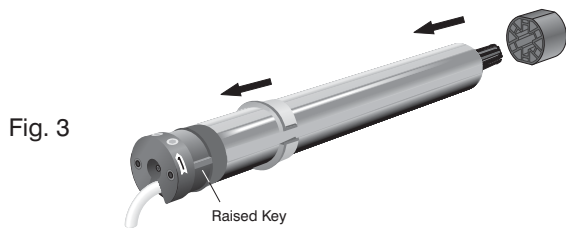

Fig. 3
- Carefully pull open the one piece crown in order to fit over the body of the motor. Slide the opening of the crown wheel over the recessed part of the motor's limit switch unit and close it over the Raised Key. (See Fig. 3)